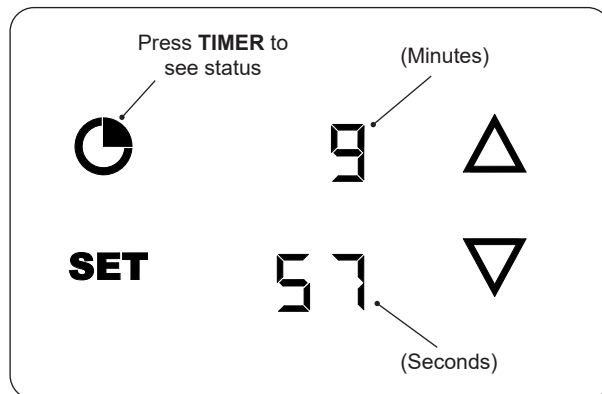

Fig. 42-2 Check timer status
- To check the timer status, press the **TIMER** button and the display will show the live countdown (for 5 seconds then, return to the default screen). See Fig. 42-2.
- The upper display indicates minutes and the lower display indicates seconds (see Fig. 42-2).